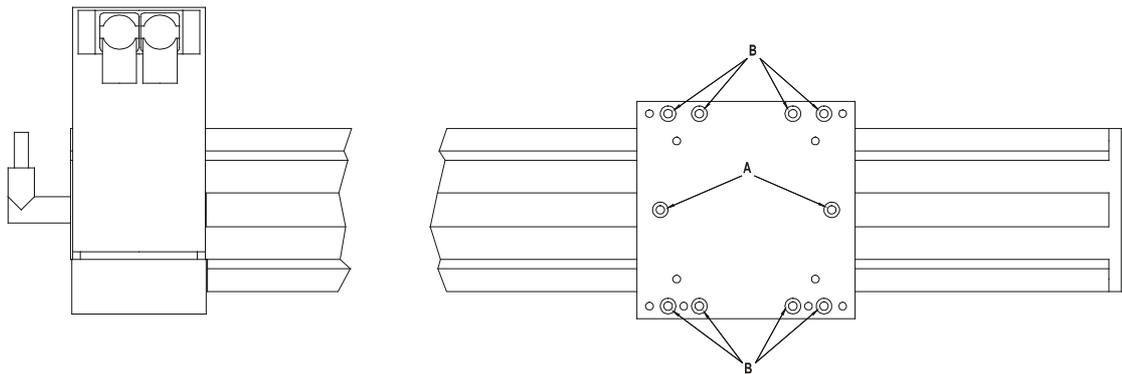

Figure 18: Top view linear unit
- Loosen the two central connection screws in running direction to uncouple the carriage unit from the tappet (toothed belt). See *Figure 18*, bottom, **A**.
- Before installing the carriage unit, the screw connection (B) between carriage plate and clamping block (see *Figure 18, page 21*) must be loosened to avoid tensioning of the linear bearings during insertion into the guide.
- Tighten the connection screws (see *Figure 18, page 21, B*) between carriage plate and clamping block.
- Connect tappet and carriage unit (see *Figure 18, page 21, A*)
- Disconnect the carriage unit from the tappet by loosening the two connection screws centrally installed in running direction (see *Figure 18, Page 21, A*).
- Connect carriage unit and tappet (see *Figure 18, page 21, A*)